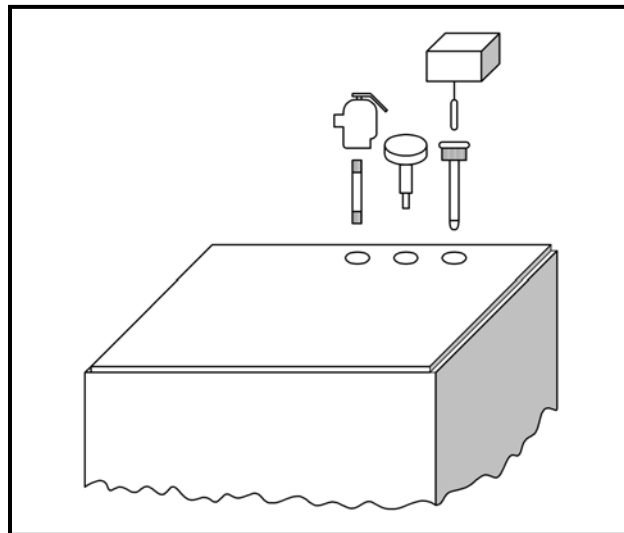

Figure 13.
- a) Take the L8148A Aquastat relay, the well, the pressure relief valve with pipe nipple and the temperature/pressure gauge from the large carton which was packed in the wirebound crate. Install in tappings provided at the top rear of the boiler as shown in Figure 13.
- a) The pressure relief valve and temperature/pressure gauge are supplied with the boiler and should be mounted as shown in Figure 13.